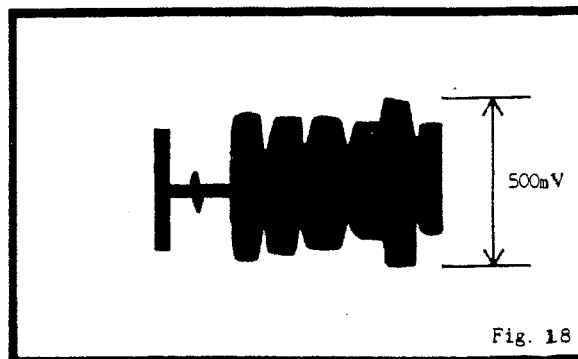

Fig. 18
3. Connect the oscilloscope to pin ④ CP4202.
4. Adjust VR8013 for $500 \pm 10\text{mV}$ in the level of red. (Refer to Fig. 18)